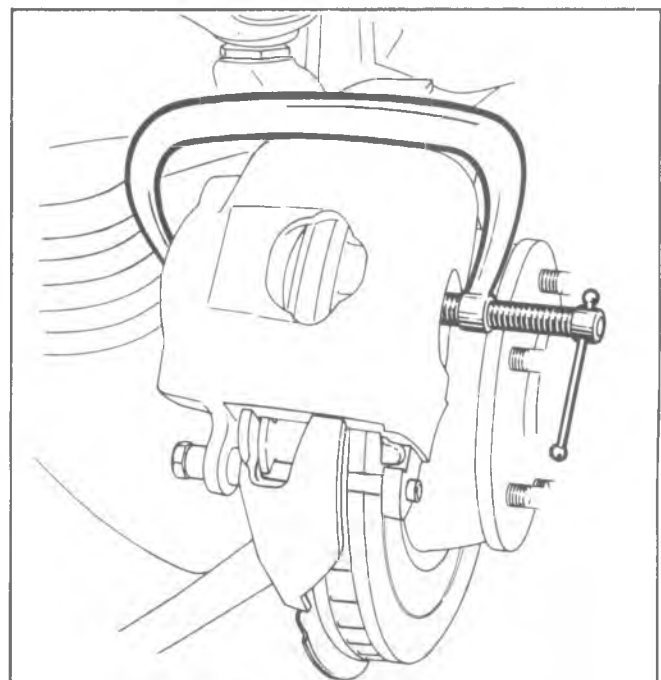

Fig. 5-20--Use of "C" Clamp
2. Raise the vehicle on a hoist and remove the wheel covers and wheel assemblies. Position a 7 inch "C" clamp on the caliper so that solid side of the clamp rests against the metal part of the outboard shoe (fig. 5-20). Tighten the "C" clamp until the caliper moves away from the vehicle far enough to push the piston to the bottom of the piston bore. This will allow the shoes to back off from the rotor surfaces. Remove the "C" clamp.